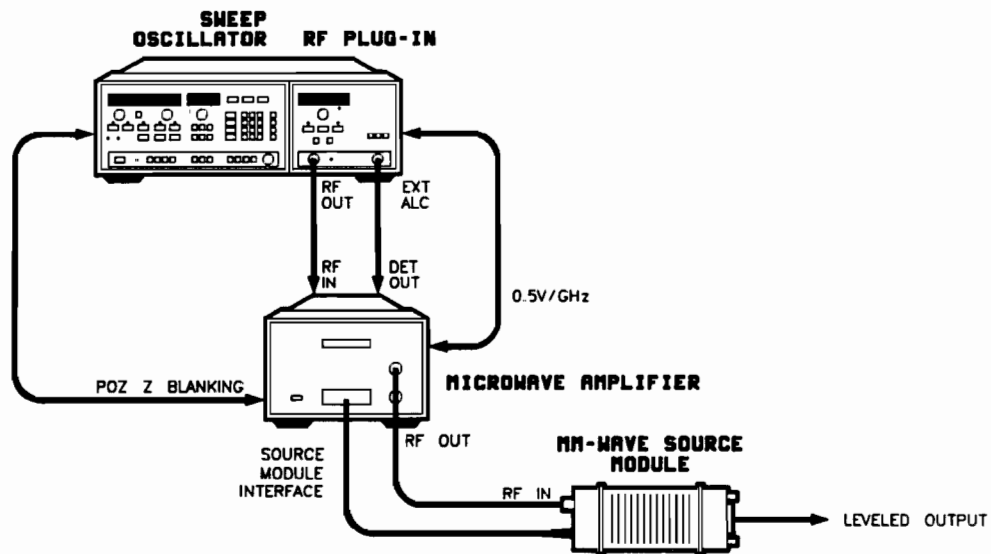

Figure 3-5. Typical millimeter-wave test set up
2. **0.5 V/GHz – 1 V/GHz.** Selectable (1 V/GHz or 0.5 V/GHz) BNC connector output that corresponds to the RF output frequency (0.01 to 18 GHz for 1 V/GHz and 0.01 to 20 GHz for 0.5 V/GHz). The HP 8410B/8411A network analyzer utilizes the 1.0 V/GHz output for phase-locking. The HP 83550 series millimeter-wave source modules use the 0.5 V/GHz as a frequency reference for millimeter-wave applications. See Figure 3-5 for instructions on how to set the frequency reference selection switch (A2S1).
Figure 3-5 shows a typical millimeter-wave test set up using an HP 83592A. Note that an HP 8349B microwave amplifier is required to produce the power level required by the millimeter-wave source module. Also notice that the HP 83550 series millimeter-wave source modules use the 0.5V/GHz as a frequency reference, this 0.5, 1.0 V/GHz frequency reference output is switch selectable on the A2 interface assembly.